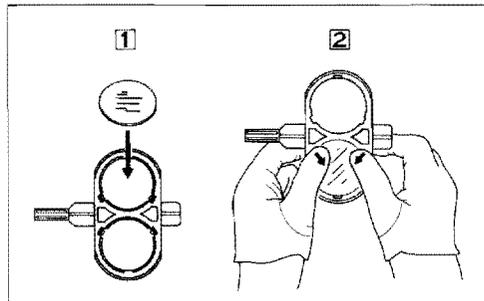

Fig. 2-17
- Mount the filter to be used as shown in Fig. 2-17- ①. NCB11, GIF, and ND filters should be mounted to match their respective indications. The HE filter can be mounted using the position for either the NCB11 or GIF filter, or to a filter holder with an ND indication.
- When removing the filter, push the filter as shown in Fig. 2-17- ②.